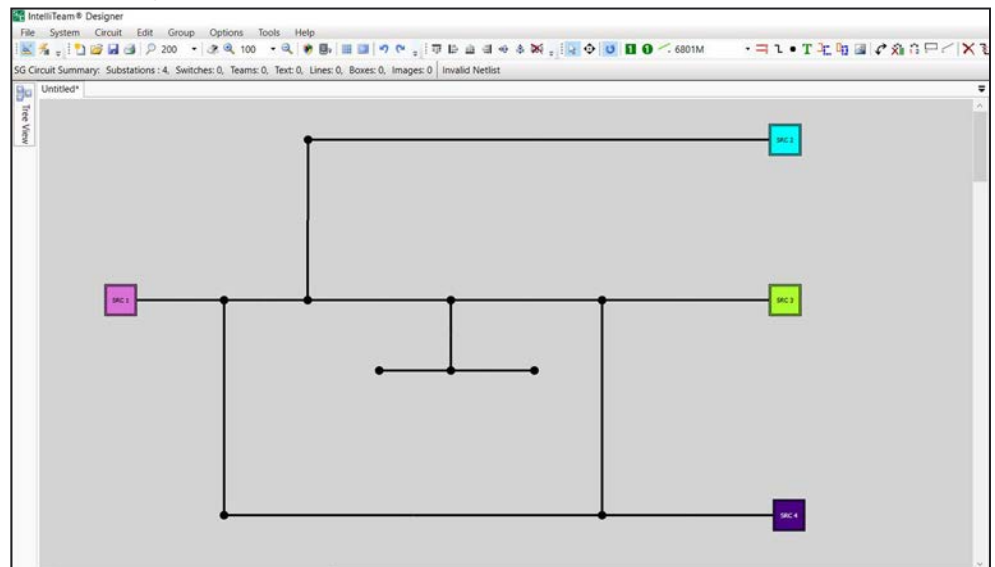

Figure 52. View the circuit at 100% zoom.
STEP 10. Set the zoom to 100% and use the scroll bars to position the circuit, as shown in Figure 52.